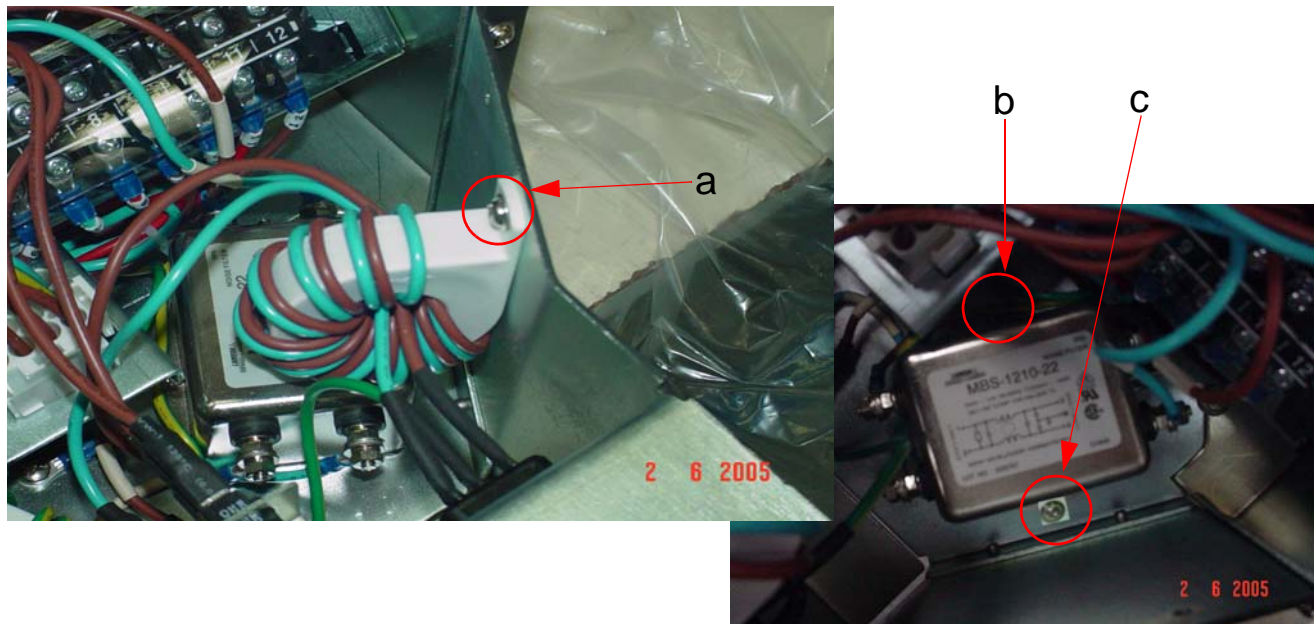

Figure 8-65 Noise Filter Disassembly
- 2.) Remove the 3 screws marked as “a, b, c” as seen in Figure 8-65 on page 8-129